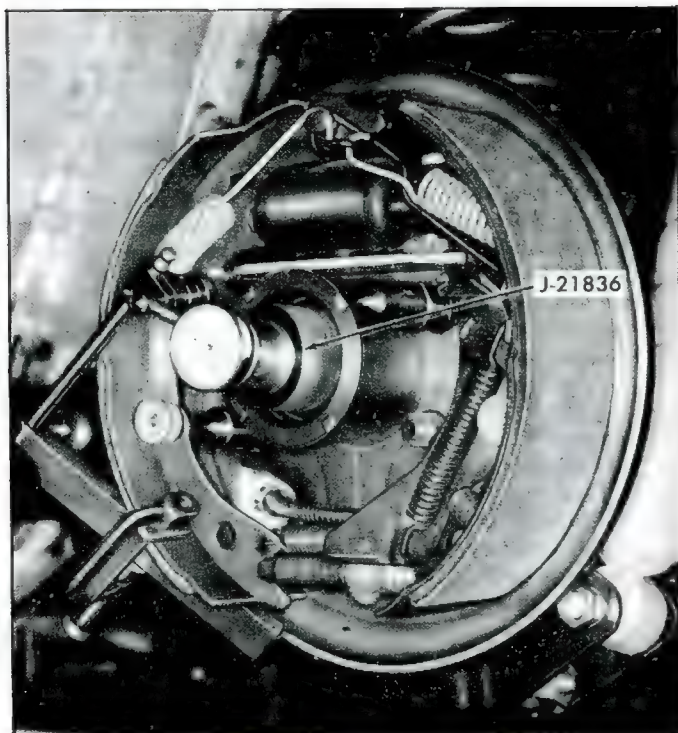

Fig. 73—Gauging Wheel Bearing Shim Requirement
- e. Install dial indicator (J-8001), and position indicator finger against moveable shaft of J-21836 (fig. 73).